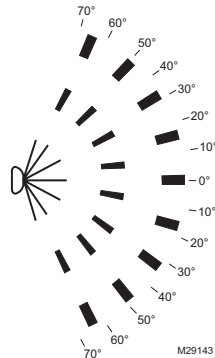

Fig. 2. Top view of PIR detection pattern.
**Angle:** 140 degrees (see Fig. 2)